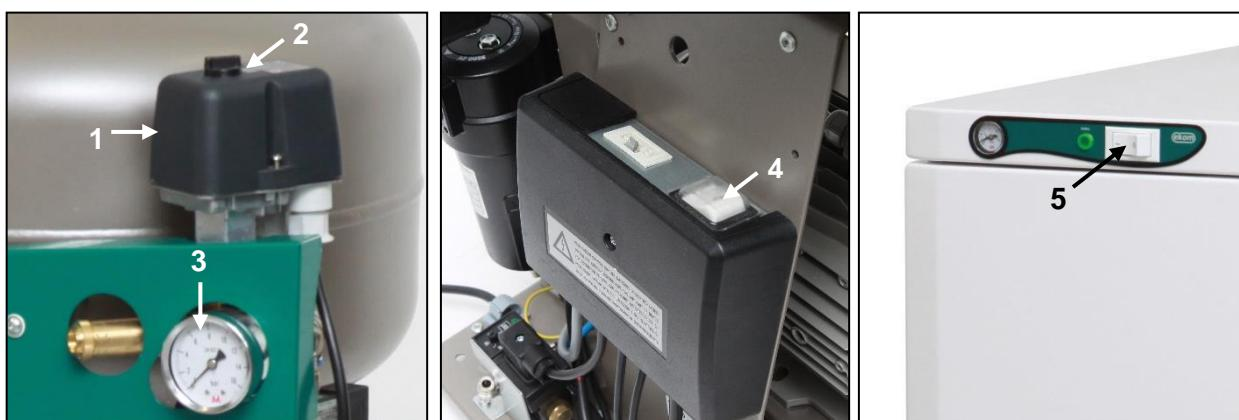

Fig. 13
- Check the position of the breaker switch to ensure it is in the "I" position. Turn the breaker switch (4) to the "I" position if it is found in the "0" position. (Fig. 13)
- Turn the switch (5) on the front side of the cabinet to the "I" position; a green indicator indicates the device is in operation. (Fig. 13)
(Fig. 13)